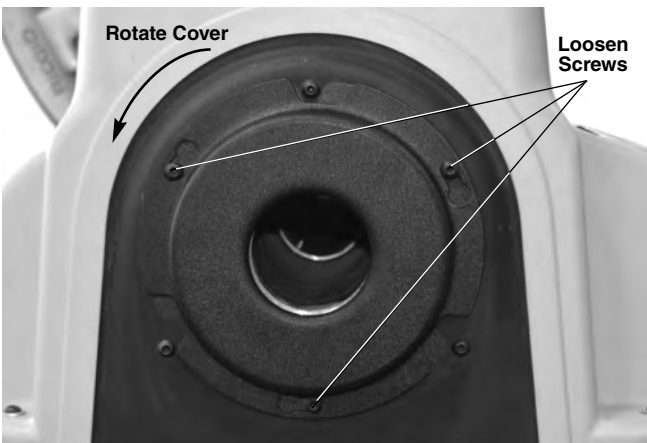

Figure 25A – Removing Rear Cover
- a. Make sure that the REV/OFF/FOR (2/0/1) switch is in the OFF (0) position and the cord is unplugged from the outlet.
- b. Remove rear cover. Loosen cover screws and rotate cover to remove (Figure 25A).